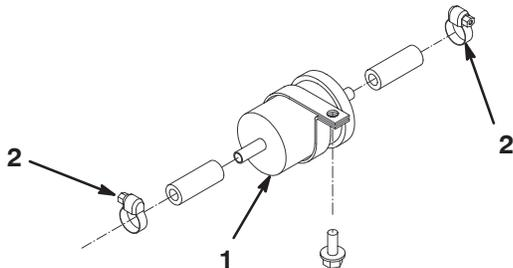

Figure 43
3. Loosen the hose clamps at both ends of the filter (Fig. 43) and pull the fuel lines off of the filter.